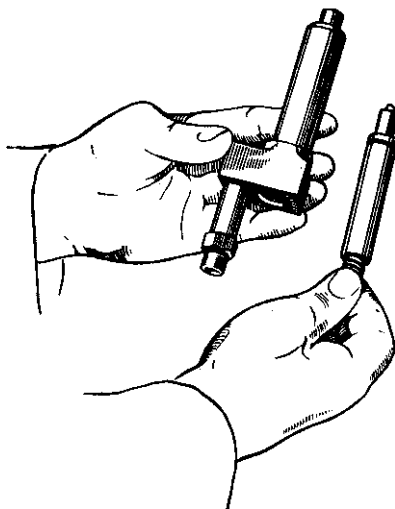

Fig. 4
- iv. Hold the injector body as shown in Fig. 4 and insert the full assembly into the injector body 1. It will be seen that by assembling the internal parts in this order, the whole assembly can be inserted into the injector body, thus avoiding the likelihood of parts being misplaced, as may occur if they are dropped into the body separately.